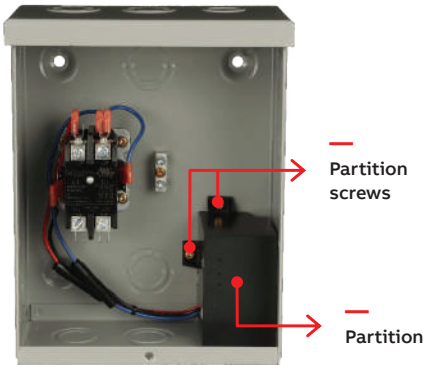

Figure 1*
- 1- Unscrew the partition screws (Figure 1) and remove the partition.